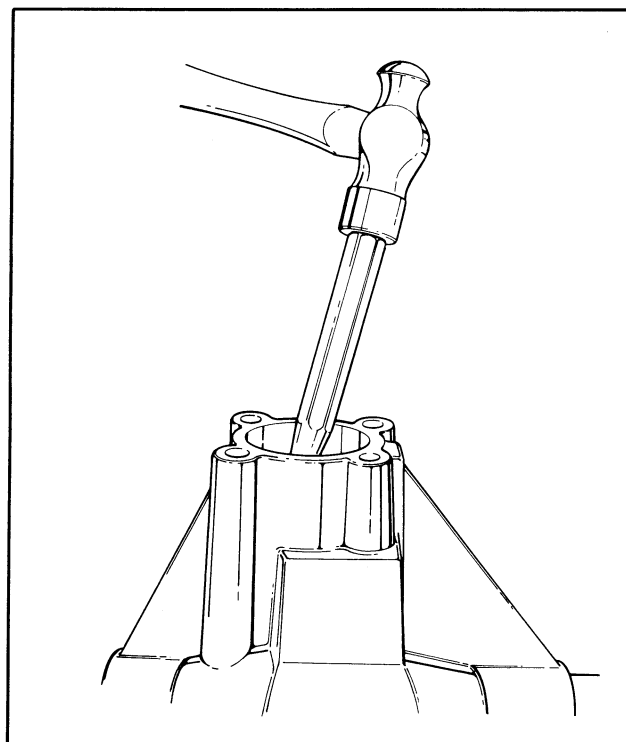

Figure 28 – Removing Rear Pinion Bearing Cup
- s. Remove oil slinger (20), pinion shaft (21), sleeve (23), shims (24) and bearing cones (22 and 25). Retain pinion gear preload shims (24) for reassembly.
- t. Rear bearing cup (27) can be driven out with drift. See Figure 28. Shims (29) are located between bearing cup (27) and carrier bore. Retain these shims for reassembly. Shims (29) are used to set pinion depth.